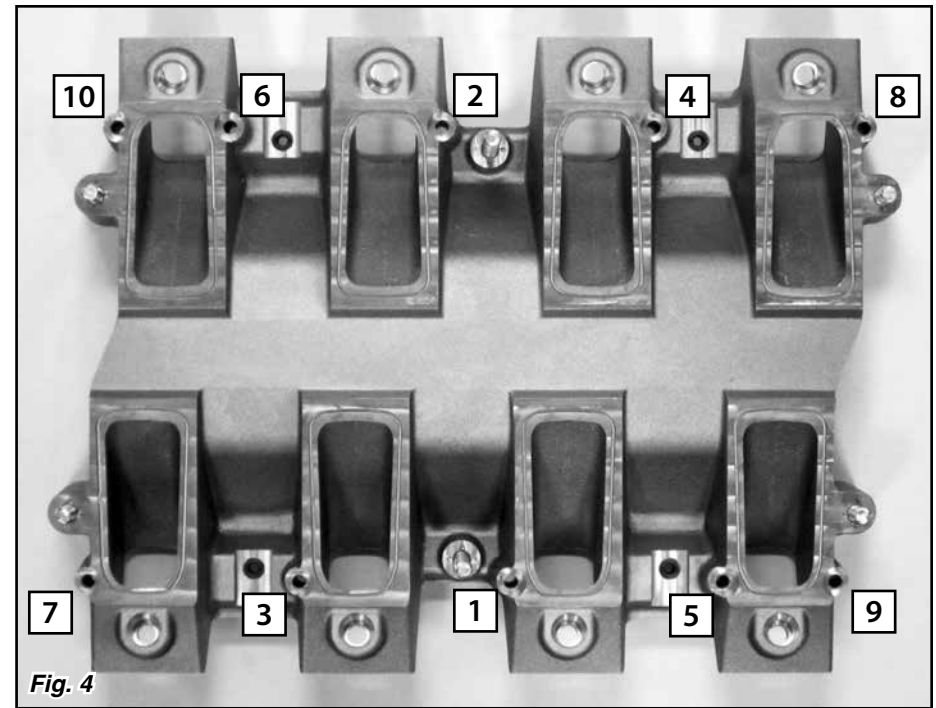

Fig. 4
Step 3: Apply a drop or two of engine oil to the threads of the ten M6-1.0 socket head bolts. Install the bolts through the lower manifold and thread them into the cylinder heads. Following the tightening sequence diagram in **Fig. 4**, snug the bolts down lightly, just until the O-rings are slightly compressed.
Step 4: Torque the M6-1.0 socket head bolts in two steps. Following the sequence in **Fig. 4**, tighten all of the M6-1.0 socket head bolts to 50 lb.-in. (4.2 lb.-ft.). Then, follow the sequence in **Fig. 4** again to tighten the bolts to 106 lb.-in. (8.8 lb.-ft.).